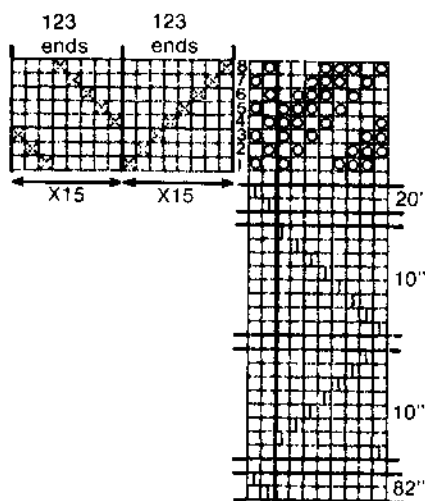

FIGURE 2
**Threading, tie-up, and treadling:** See Fig. 1 for a 4-shaft loom and Fig. 2 for an 8-shaft loom.